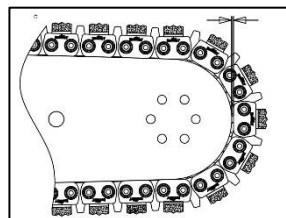

FIGURE 5
- 3.4.6. Check the clearance between the nose of the bar side-plates and the chain chassis. The bar must be replaced before the chain chassis begins to ride on the nose of the bar side-plates as shown in Figure 5.